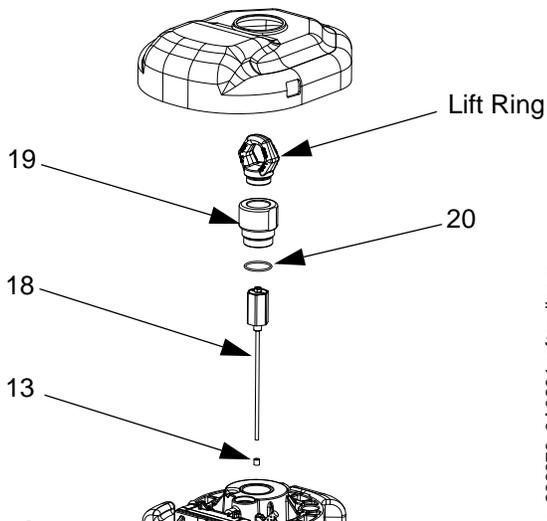

FIG. 57: Install Linear Sensor
- c. Place the linear sensor magnet (13) on the installation tool (27), and then insert the magnet down into the top of the motor shaft.
- d. Apply the supplied adhesive to the linear sensor assembly (18) threads. Install the linear sensor; torque to 30-36 ft-lbs (40.6-48.8 N•m). See FIG. 57.
- e. Place the o-ring (20) on the lift ring adapter (19), and apply the supplied adhesive to the threads. See FIG. 57.
- f. Route the linear sensor cable through the lift ring adapter. Install the lift ring adapter; torque to 30-36 ft-lbs (40.6-48.8 N•m). See FIG. 57.
- h. Apply the supplied adhesive to the lift ring threads. Install the lift ring; torque to 30-36 ft-lbs (40.6-48.8 N•m). See FIG. 57.